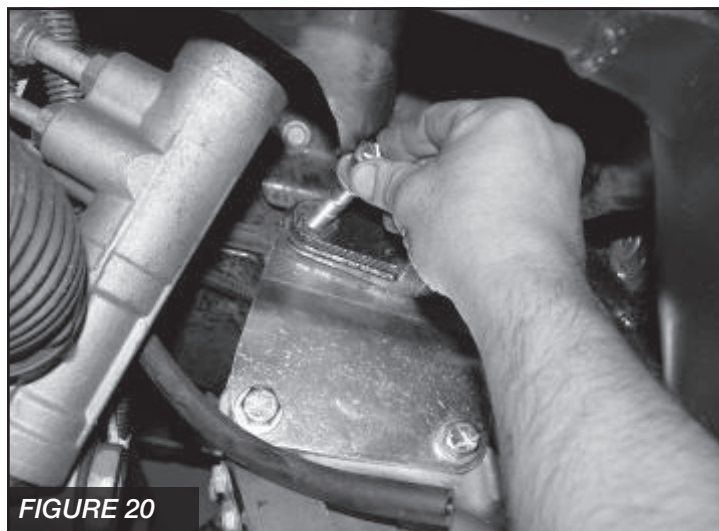

FIGURE 20
30. Install the supplied $\frac{1}{2}$ " x $2\frac{1}{2}$ " bolts, nuts, and washers on the driver side front diff bracket. Torque all differential hardware to 100 ft lbs. **SEE FIGURE 20**